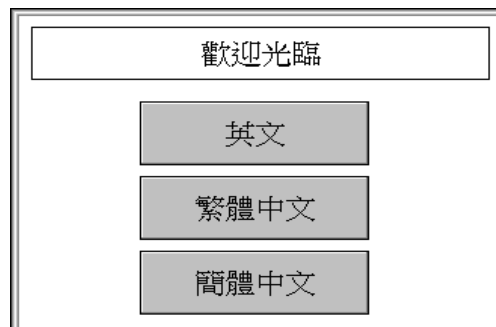

Figure 7.3.3
- (3) The text is switched. The interface is showed follow (Figure 7.3.3)